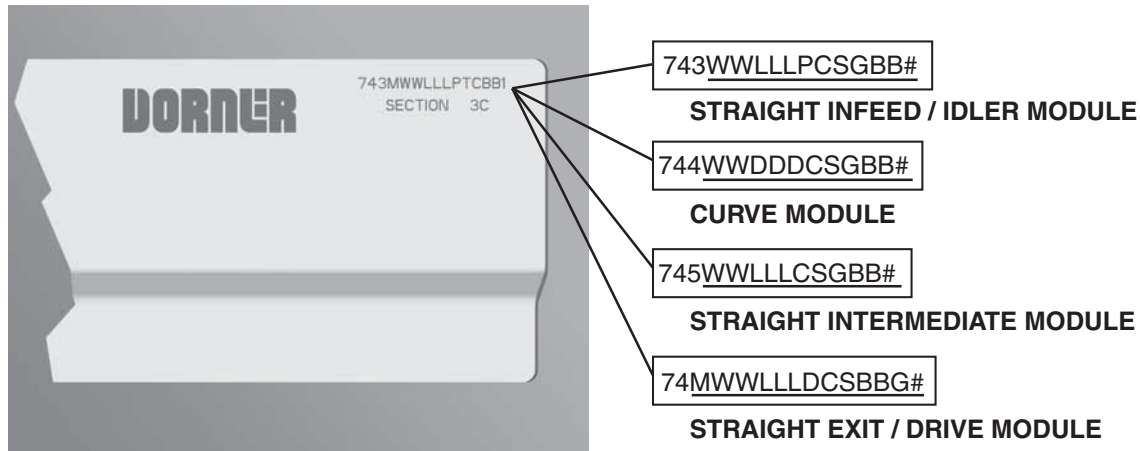

Figure 93
Refer to your serial and model number plate (**Figure 93**). From the model number, determine conveyor width (WW), length (LLL), pulley type (P), stand location, cleaning options (C), stand holes (S), guide profile (G), belt material (BB), degree of turn (DDD), drive/pulley type (D) and module serialized sequence (#).